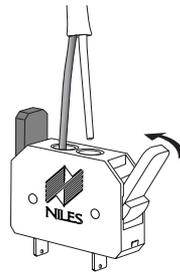

Figure 16 No-Strip Speaker Wire Terminal.
5. Insert one unstripped wire fully into the black and one into the red terminal. Pay attention to the markings on the wire. Each speaker must be connected to the amplifier in the same way. If unsure, see “Speaker Phase” located on the following page. Squeeze the red and black levers until they click signifying that they have locked into the wire. Check to make sure that the knife assembly inside the no strip connector has properly pierced the wire (**See Figure 16**).